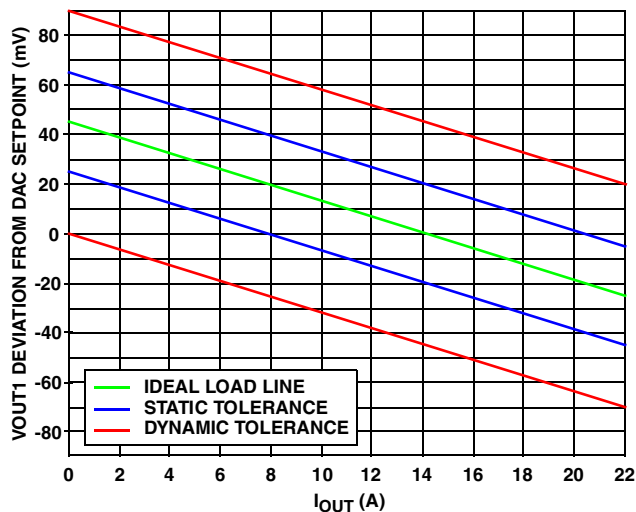

FIGURE 1. VOUT1 REGULATION ENVELOPE
The core regulator (VOUT1) was designed to meet the regulation envelope detailed in Figure 1. With a DAC-set regulation point of 1.750V, the output voltage conforms to the regulation limits shown. Although the droop pictured (difference between voltage at a lesser load and voltage at a higher load) will be the same regardless of the DAC setting, the offset shown will exhibit a proportional dependence. The resistive divider sets this offset at 2.57%. For example, the ideal load line at no load and 1.600V DAC setting will actually originate at 41mV positive offset.
1. See Figure 1 for regulation tolerance details.